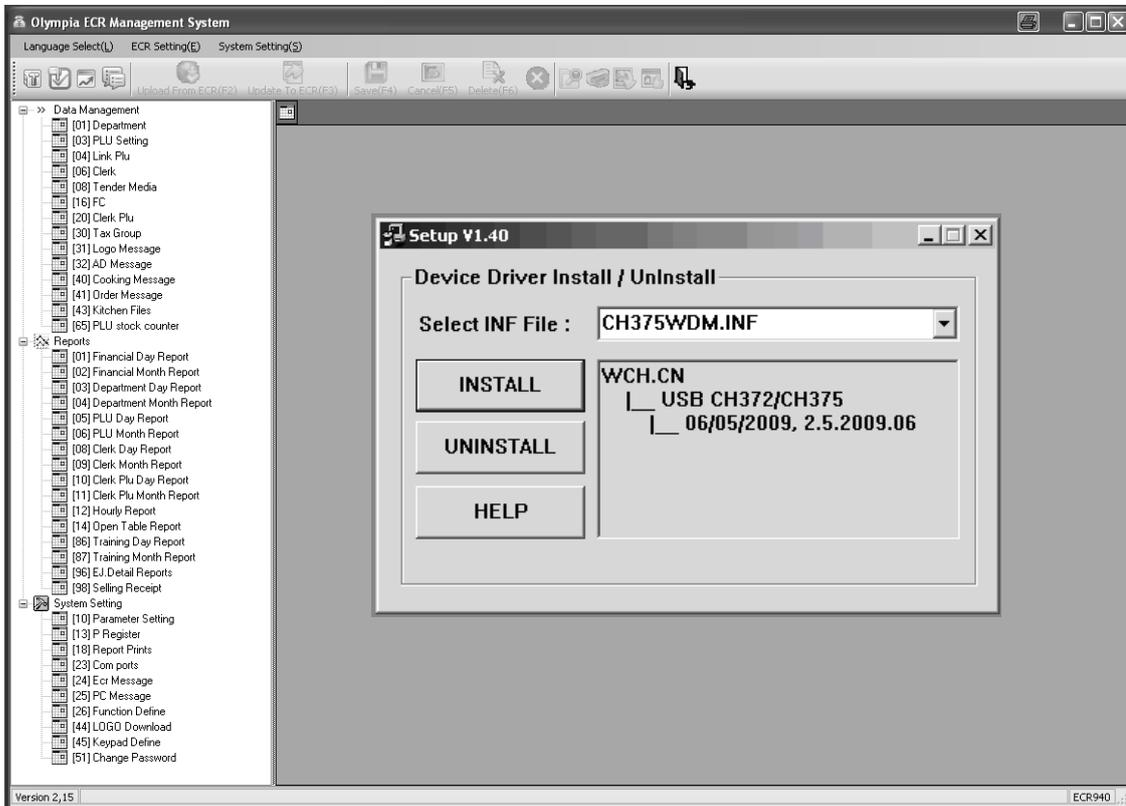

Fig. 7
6. Select the **Setup Usb Driver** menu option. The following window opens (see Fig. 7):